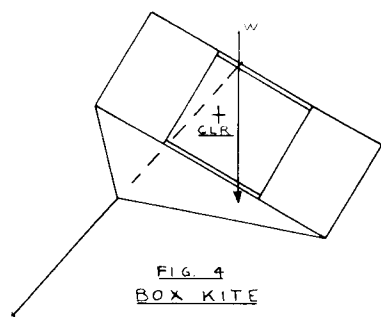

FIG. 4
O.K., how can we modify a model glider so it will fly as a kite? The key is in the relative location of center of gravity and center of lateral area. In the free flight glider it is essential that the center of gravity be forward of the center of lateral area for directional stability. In a kite the opposite is the case. The center of gravity of a kite must be aft of the center of lateral area. When a kite is disturbed to one side, the kite is flying to some extent on its side. If the center of gravity is aft of the center of side area, as it should be, the aft weight causes the tail to drop, and the nose to rise, which, in turn, causes the kite to return to the stable downwind condition. The best example I can think of is an ordinary box kite, as shown by Fig. 4. The center of gravity of the box kite is at midlength as shown. The ordinary center of lateral area is also at midlength. However, as is well known, the effective center of lateral resistance is somewhat forward of the center of area, which is where I have shown it in Fig. 4. As can be seen, the string axis is still somewhat forward of the center of lateral resistance, which is essential for directional stability.
So much for transverse and directional stability. Now for longitudinal stability. This is fairly simple. Fig. 4 shows that the box kite line is attached to a bridle which provides considerable longitudinal stability. Thus, longitudinal stability is not much of a problem when flying in the downwind condition.